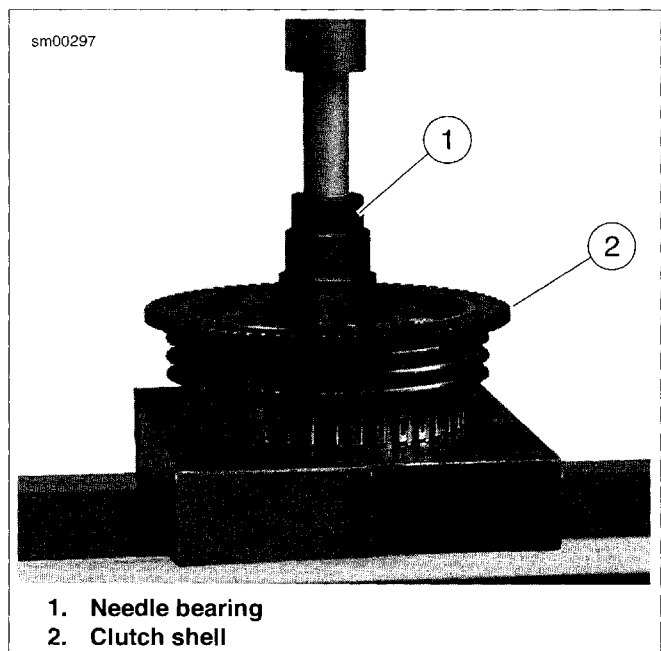

Figure 5-34. Installing Clutch Shell Needle Bearing
5. See Figure 5-34. Place clutch shell on support blocks with sprocket side facing up.